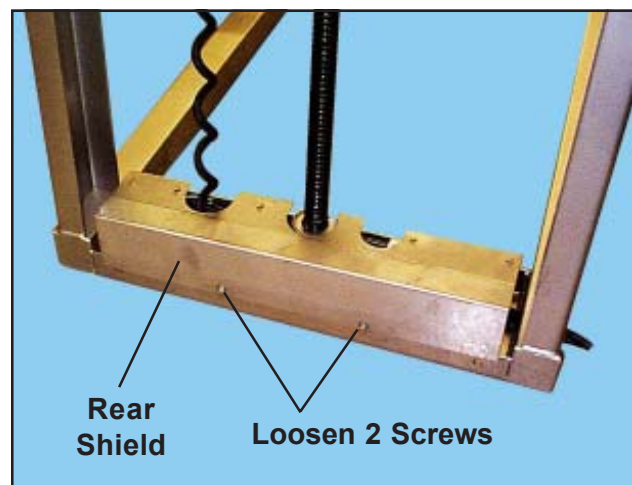

Figure 25. Removing the Rear Shield
9. With a Phillips screwdriver, loosen the two screws on the rear shield (Figure 25).
16. Replace the rear shield and tighten the two screws (Figure 25).